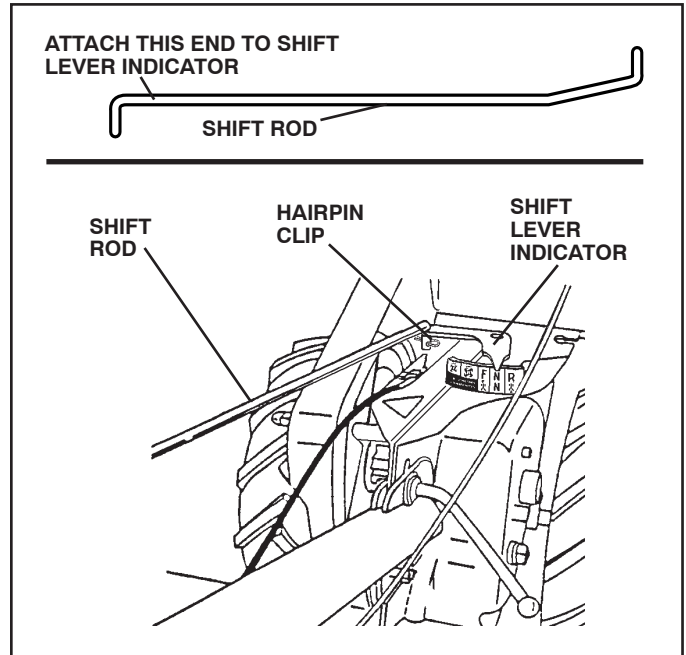

Fig. 7
CONNECT SHIFT ROD (See Fig. 7)
- Make sure shift lever indicator is in "N" (neutral) position (See Fig. 7)